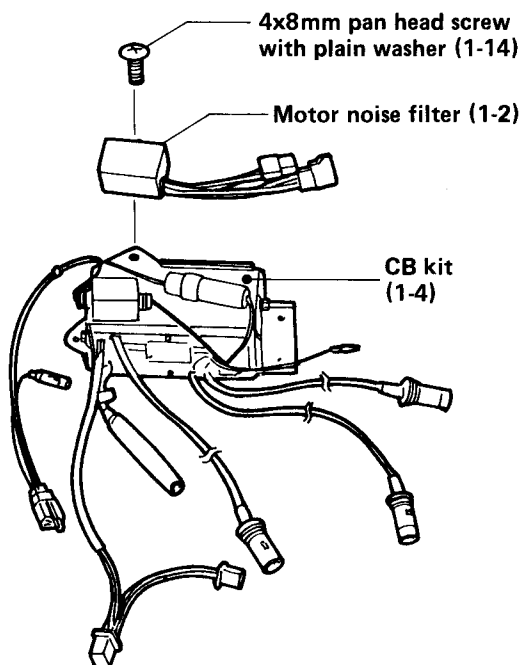

Fig. 16-1
- 1) Install the motor noise filter (1-2) on the CB kit (1-4) with a 4x8mm pan head screw and a plain washer (1-14) as shown in Fig. 16-1.